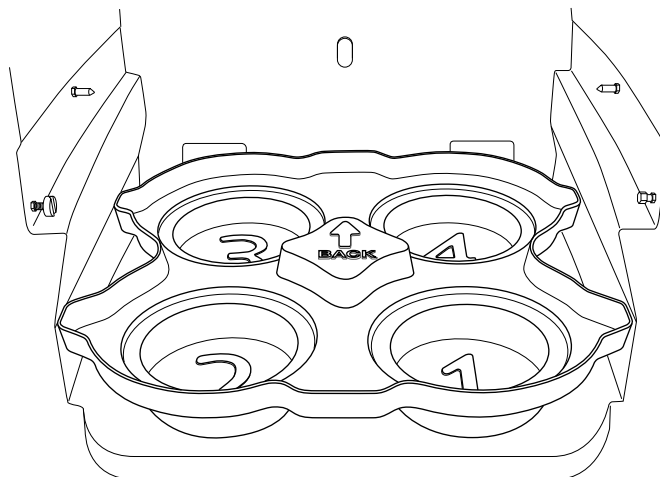

Figure 2-6 Installing the standard locating base
2. Slide the locating base into the bottom of the refrigerated compartment (Figure 2-6). Note that the arrow must be pointing toward the back of the refrigerator.
2. Slide the standard locating base into the bottom of the refrigerated compartment (Figure 2-6). The arrow must point toward the back of the refrigerator.